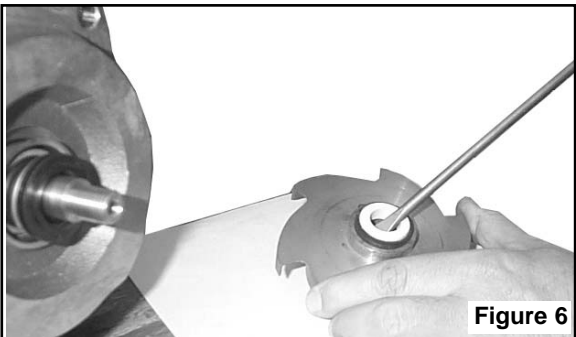

Figure 6
4. The seat of the seal can now be removed from the impeller (Figure 6).